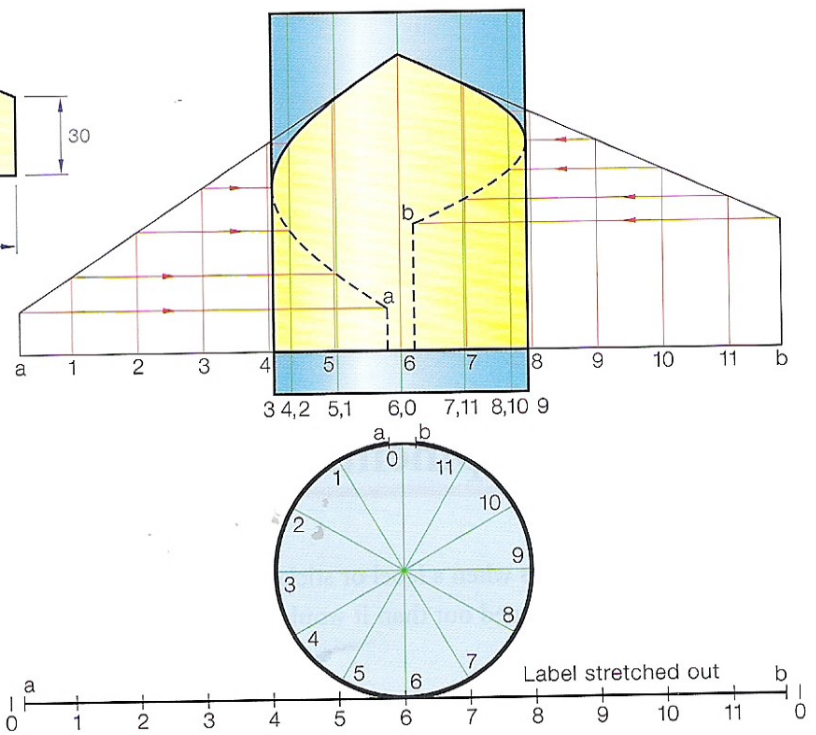

Fig. 11.40b
- (1) Draw the given view and draw the plan.
- (2) Draw the stretched-out label in plan.
- (3) Divide the plan into twelve equal parts.
- (4) From the centre line of the label step-off the divisions to the left and right and index.
- (5) Draw the generators in elevation.
- (6) Project across the heights from the label to the generators in elevation.
- (7) The ends of the label must be found in plan first and then in elevation, Fig. 11.40b.